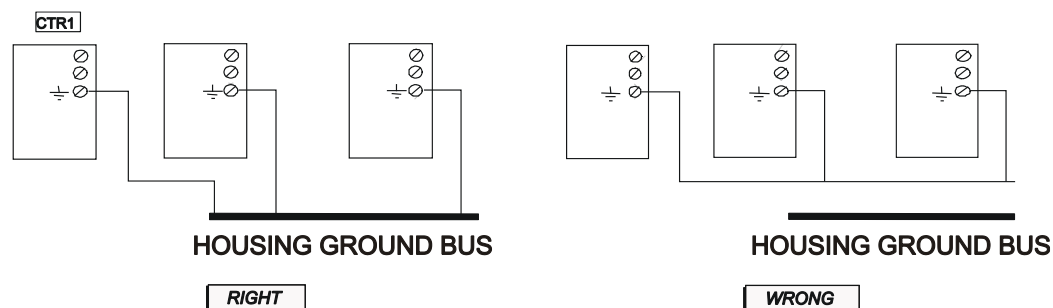

Figure 9.2 – Housing Ground Connection
- Housing Grounding bus: it corresponds to the plant grounding bus. That is where the housing of each **CD600 Plus** (see Fig. 8.4 - pag. 8.5) should be connected (see Fig. 9.2).
Each controller should have its own connection for both kinds of grounding. See figures 9.2 and 9.3.